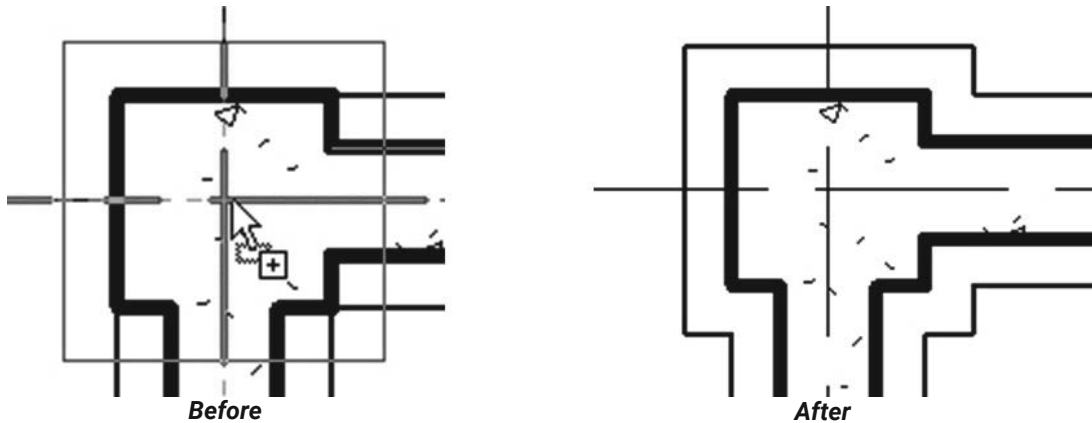

Figure 7–66
8. Zoom in to the column at the **B1** grid intersection and place the isolated footing. The isolated footing and wall footing automatically join together, as shown in Figure 7–66.